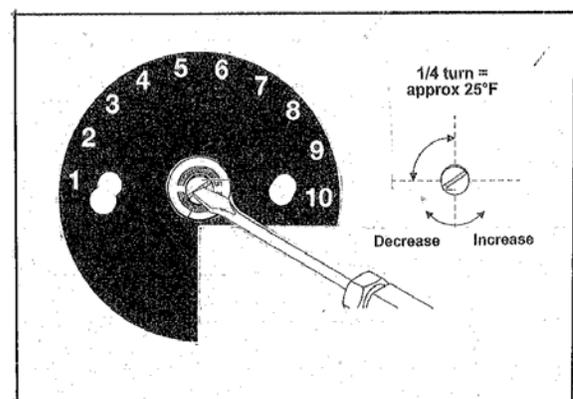

Fig. 16
3. Using a small screw driver, turn the screw in the center of the thermostat stem: “**clockwise to Decrease**” temperature or “**counter-clockwise to Increase**” temperature. (Fig. 16)